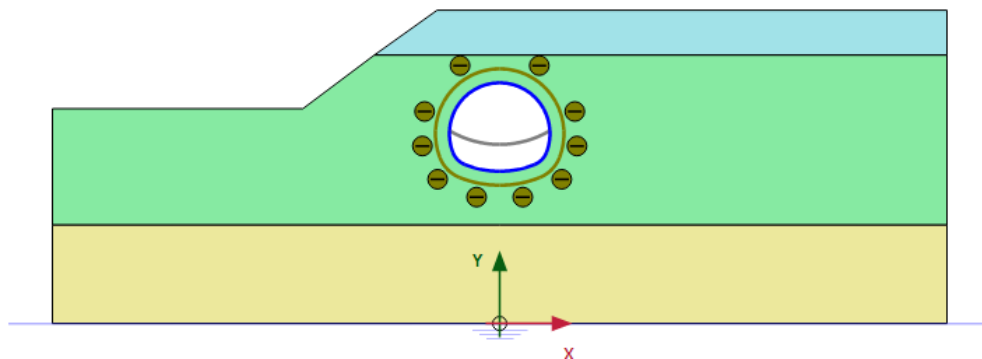

Figure 6–10: Configuration of Phase 4
- 4 The model for phase 4 can be seen in Figure 6–10 \(p. 118\).